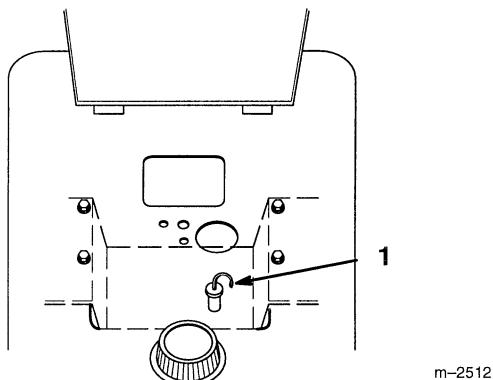

Figure 31
3. Clean around the transaxle dipstick (Fig. 31) so dirt cannot fall into the filler hole and damage the transaxle.
4. Pull out the dipstick and wipe the metal end clean (Fig. 31).
5. Slide the dipstick fully into the filler tube (Fig. 17). Pull the dipstick out and look at the metal end. When transaxle is cold oil should be at the "Full" line on the dipstick (Fig. 31).